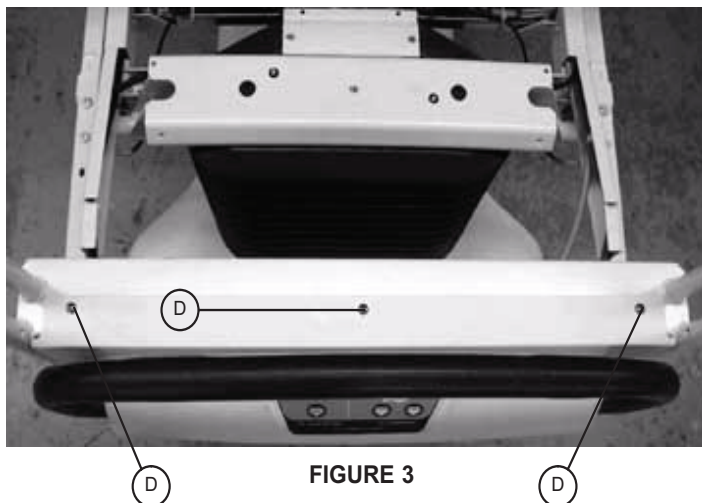

FIGURE 3
7. Using a #2 Phillips screwdriver, remove the three screws (D) holding the control bar cover to the head end of the bed (see Figure 3).